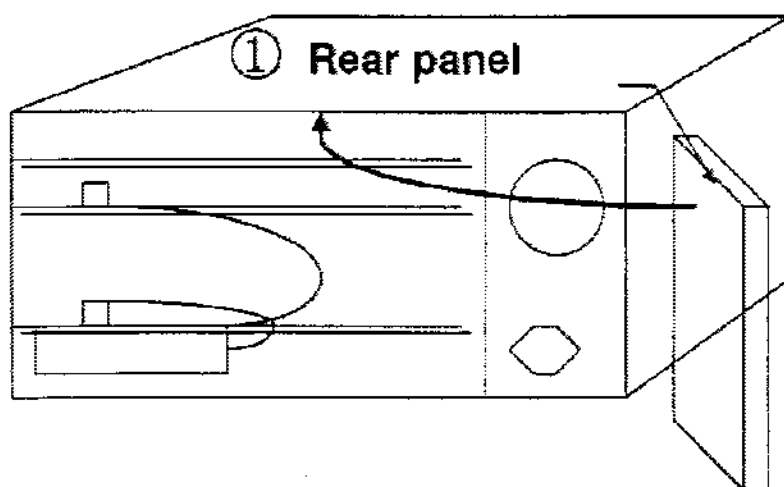
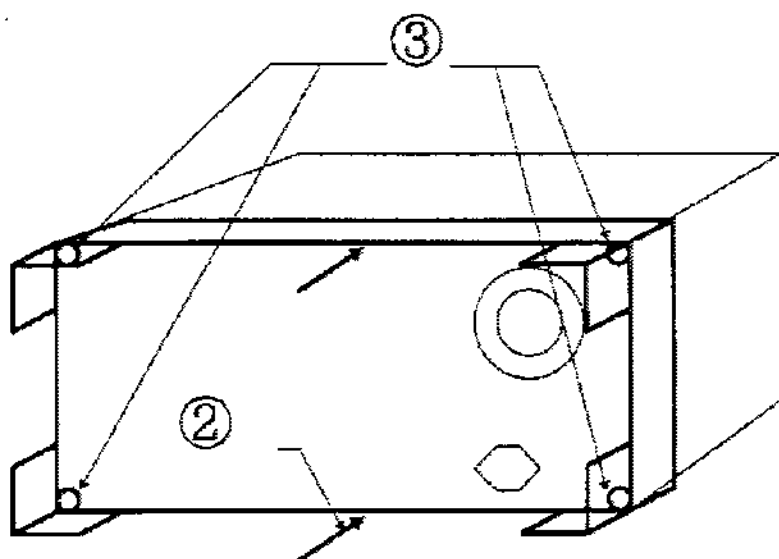
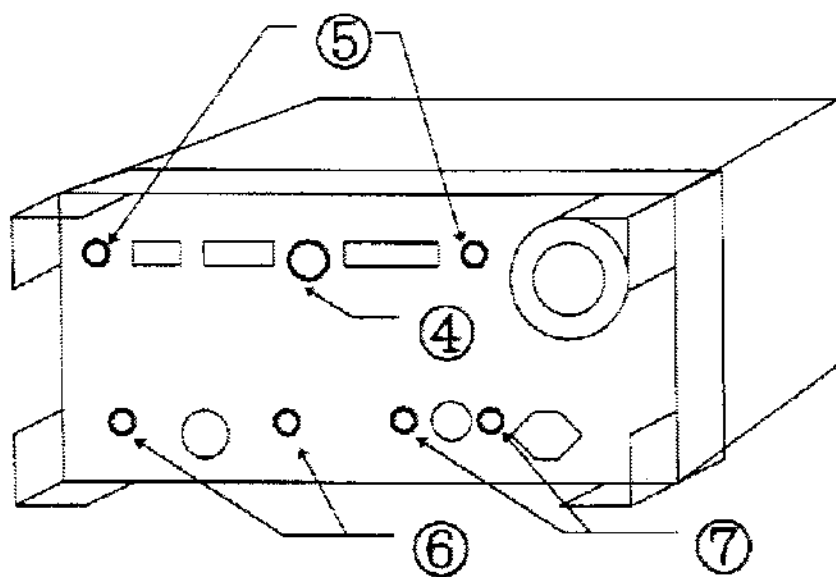

Fig.17
Fig.18
Fig.19
Process number such as ①, ② are same as number of Fig.17,18,19.
- ① Install rear panel to main frame.
- ② Install "FRAME REAR" to main frame.(Refer to Fig.18)
- ③ Screw FRAME REAR back to main frame by 4pcs Hexagon head screws
- ④ Fix Hexagon nut and washer back on EXTERNAL TRIGGER terminal on the rear panel. (Refer to Fig.19)
- ⑤ Screw CPU/AD board back on the rear panel.
- ⑥ Screw RF block back on the rear panel.
- ⑦ Screw Probe power back on the rear panel.(If it installed)